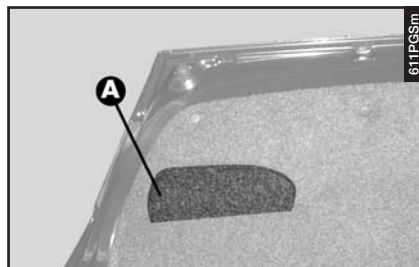
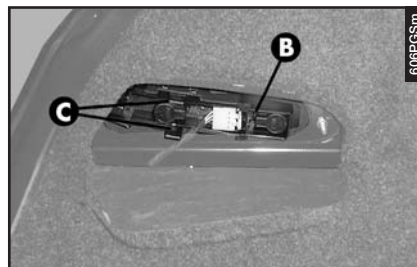

fig. 56
fig. 57
- Lower the lid (**A-fig. 56**) of the boot trim corresponding with the light concerned and remove the bulb holder unit (**B-fig. 57**) releasing the retainer catch (**C**).
- Re-insert the bulb holder unit fastening it correctly in place using the retainer catches (**C-fig. 57**).